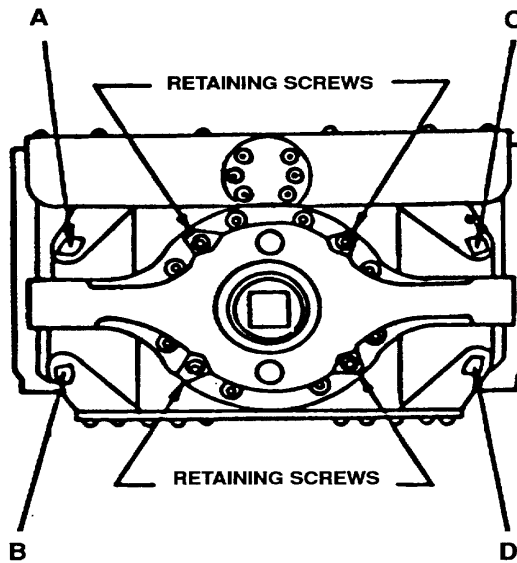

Figure 1. Torque wrench - adjustment locations.
Reaction arm must be free to move under retaining screws (fig. 1).
- (1) If TI indication error is the same in both cw and ccw directions, adjust pointer of TI dial indicator.
- (2) If TI indication error is not the same in both directions, perform (3) through (10) below.
- (3) Remove sealant from the four adjustment screws A, B, C, and D (fig. 1) on the back of TI.
- (4) Using appropriate size Allen wrench, back off screws A and B (fig. 1) at least three turns.
- (5) Adjust screw C (fig. 1) until a pressure reading is shown on indicator; then back off screw until indication returns to 0.
- (6) Check spacing between the reaction arm on sensing unit housing and reaction ears. If reaction arm is not centered between ears, adjust screws C and D (fig. 1) until sensor is centered.
- (7) Turn screw A (fig. 1) inward until a pressure reading is shown on indicator and then back off to 0 plus one-quarter additional turn.
- (8) Turn screw B (fig. 1) inward until a pressure reading is shown on indicator and back off to 0.
(9) Repeat **a** above and adjust screws B and C (fig. 1) slightly to bring TI indications within tolerance (R).
(10) Reseal retaining screws with sealant.